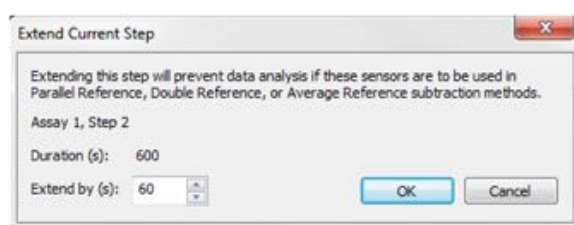

Figure 8-64: Extend Current Step Dialog Box
2. In the **Extend Current Step** dialog box (see Figure 8-64), enter the number of seconds to extend the step and click **OK**.